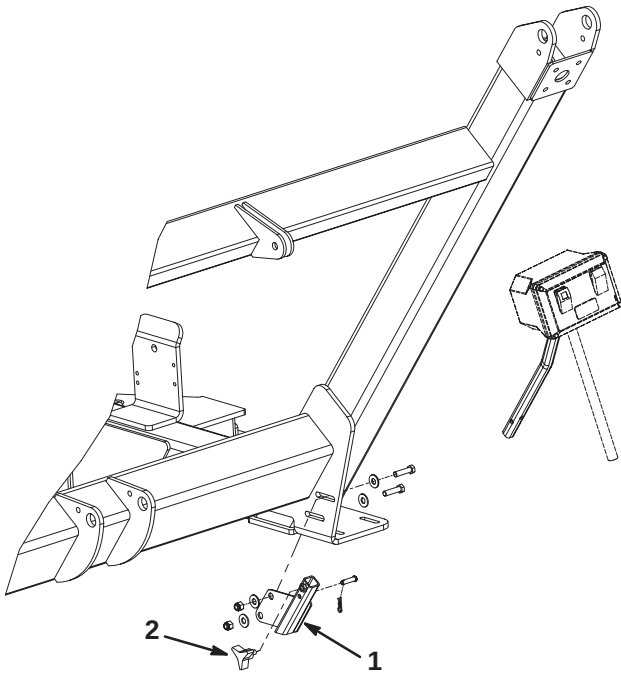

Figure 10
1. Mount the receiver assembly to the sweeper frame bracket with (2) 3/8-16 x 1/2 in. capscrews, (4) washers and (2) nuts. Position the components as shown in figure 10.
2. Insert the mounting assembly tube into the receiver and secure with a clevis pin and cotter pin (Fig. 10).
3. Thread the knob into the receiver to tighten the tube (Fig. 10).